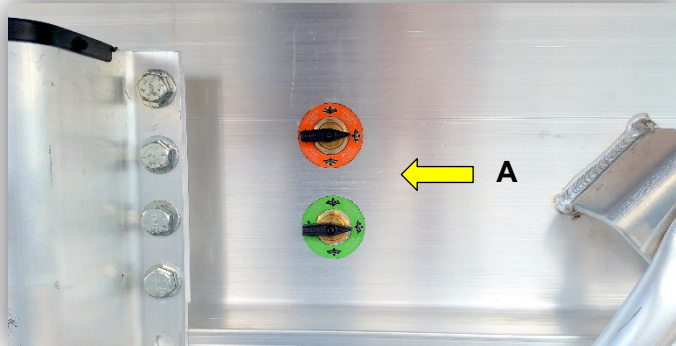

Figure 5-4 Move Tailgate Valve to Open
9. Move tailgate valve (A) to "Open". See figure 5-4. Valve is located on the driver's side of the trailer.